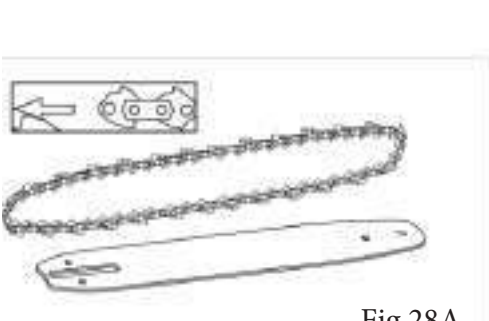

Fig.28A
- a) Place a new chain in the slot of the guide bar, making sure the saw teeth are facing the correct direction by matching the arrow on the guide bar. (Fig.28A/28B)